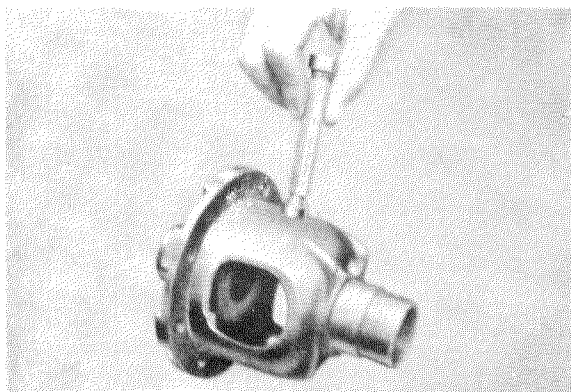

Fig. 35 — 5/21
face should once more be marked with a left-hand thread pattern (see Section C, Fig. 35 — 5/6).
4. Check the differential pinion shaft and the bores for the differential pinion shaft in the differential housing (Fig. 35 — 5/21).